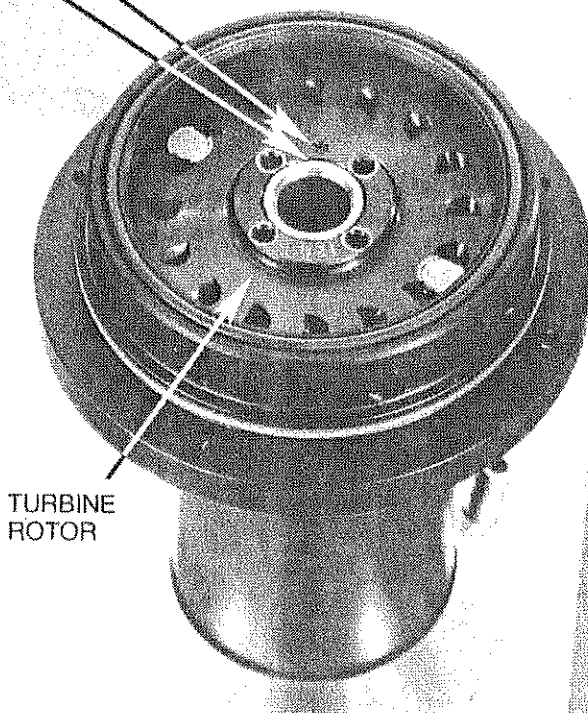

FIG. 32
16. Place turbine rotor over shaft. Note there is an alignment notch (dimple) in the turbine rotor that must be aligned with the notch in the shaft (Fig. 32).